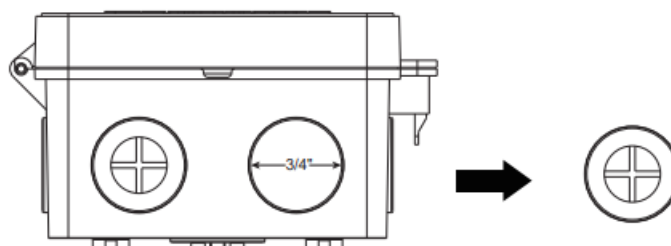

FIG.3 3/4" knockout
- **For 3/4" Knockouts:** If you use the 3/4" knockout, please remove the entire rubber plug (FIG.3).